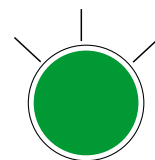

Figure 5. System Status Green LED (ON)
5. The DEF tank is now ready for use. The **GREEN** "System OK" status LED (Figure 5) should be **ON** (lit).